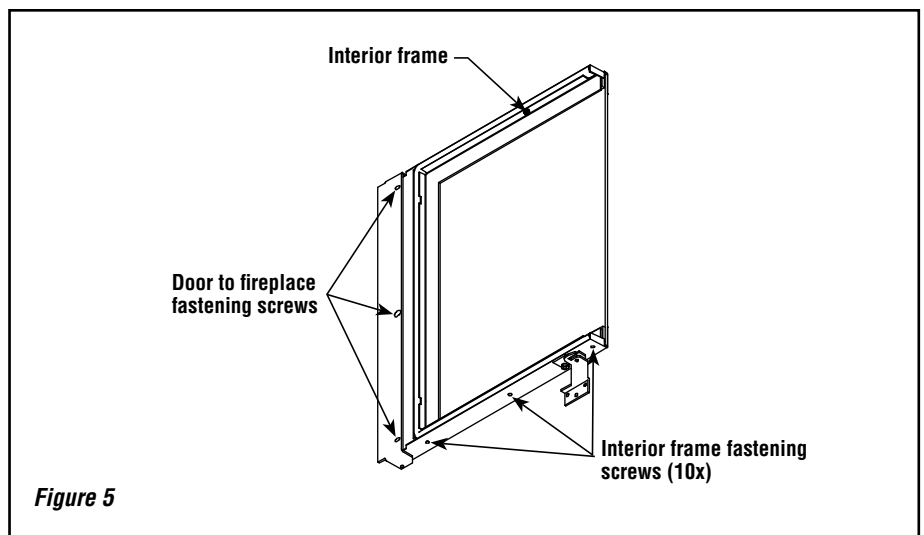

Figure 5
The glass doors can be adjusted by loosening the three (3) screws of the hinges' supports (see fastening screws in **Figure 5**). If a minor angular adjustment is needed, you may loosen only two (2) of the three (3) screws using the other as a pivot point.
The glass used for the Solana™ fireplace is a high temperature ceramic glass (1,400° F/760° C). If the glass breaks, it must be replaced with an identical ceramic glass. Tempered glass or ordinary glass will not withstand the high temperatures of the Solana fireplace. Replacement glass should be purchased from a Lennox Hearth Products dealer (see "Replacement Parts", **Pages 24 and 25**). **DO NOT OPERATE THE UNIT WITH CRACKED OR BROKEN GLASS.** To remove the glass, unscrew the frame fastening screws (see **figure 5**), remove the interior frame and the glass.